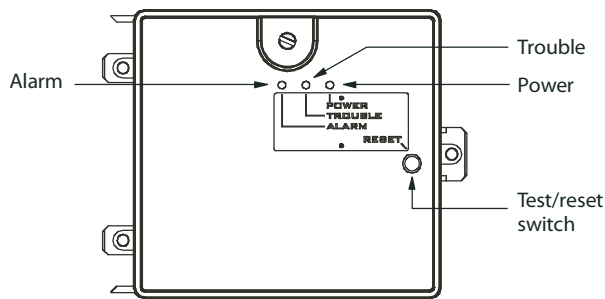

Fig. 26 - Controller Assembly
- The contacts on the controller's supervisory relay switch positions. (See Fig. 26.)